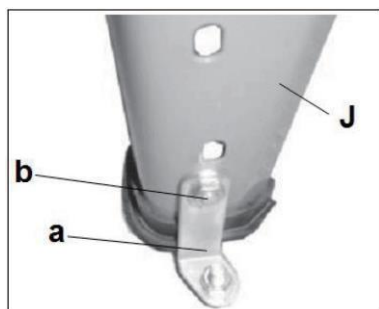

Fig. 5
Before use, the saw must be screwed securely to the metal angle bracket supplied. The metal bracket (a) must be secured to the feet (J) with the screw (b), as shown in Fig.5.